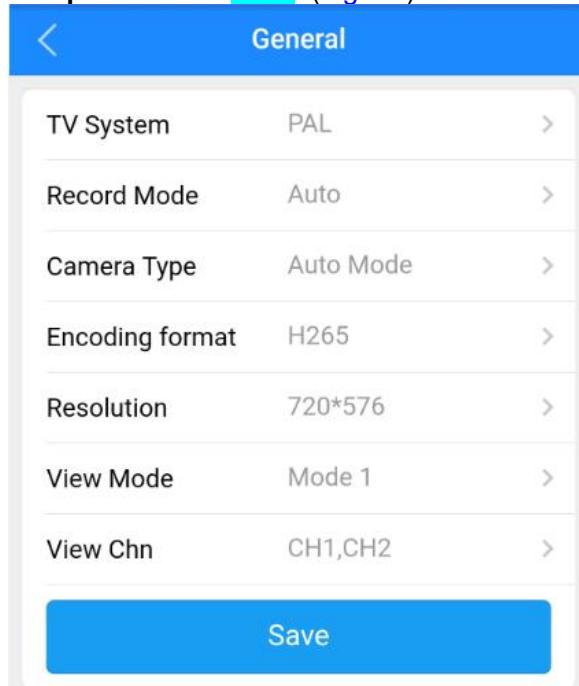

Fig.3.5 General
Step 1: Enter the **General** page, select H.265 or H.264 (Some platforms do not support H.265), if there is no real-time preview, please confirm the **TV system**: PAL or NTSC (Fig.3.5)